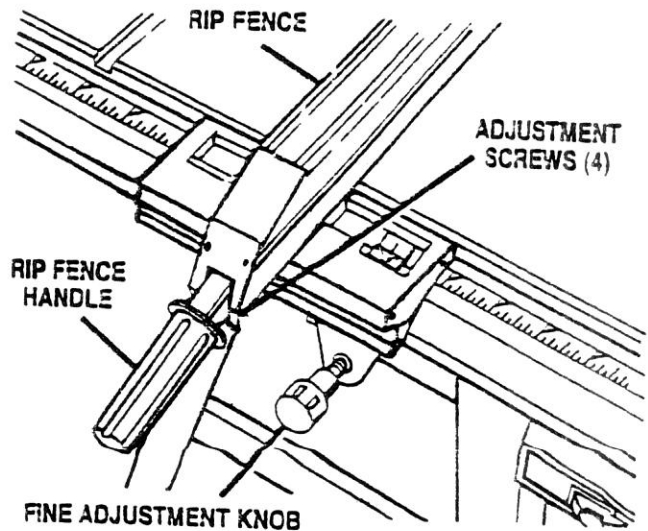

Fig. 34
- If the distances are different, loosen the four screws around the rip fence handle with a 6 mm hex key. Alternate the order (remove the screw opposite, not next to the first one). See Figure 34